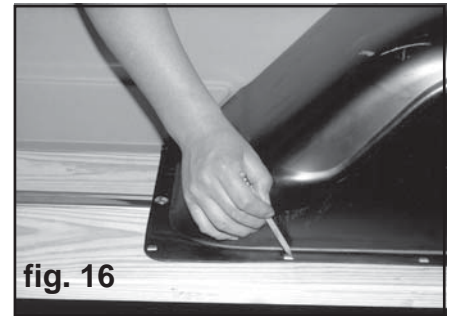

fig. 16
10. Mark the hole locations through the bed side lower lip and the wheel tub lower lip onto the wood boards. See figure 16.